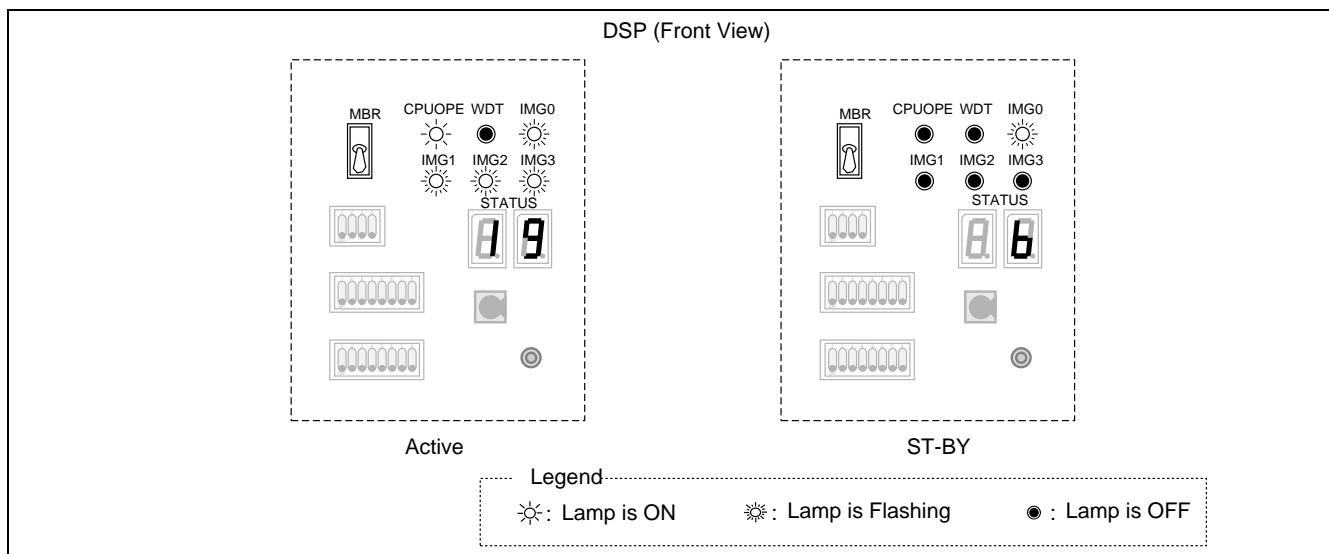
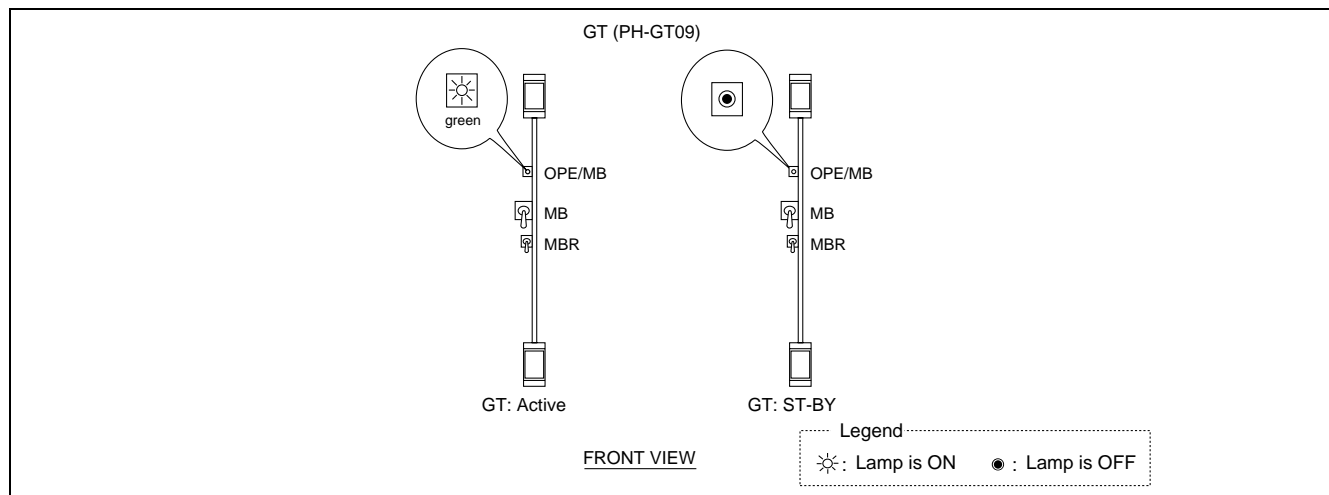

Figure 6-43 CPU in ACT/STBY Mode
Figure 6-44 GT in ACT/STBY Mode
(1) Check the lamp indications. Refer to Figure 6-43 and Table 6-8.
The CPU changeover also affects the ACT/STBY of GT in the TSWM. Refer to Figure 6-44 for more information, also check the lamp indications on the GT (PH-GT09) card.
(2) Check the mate CPU's STBY mode. Also check the mate GT's STBY mode. Refer to Figure 6-43 and Figure 6-44.